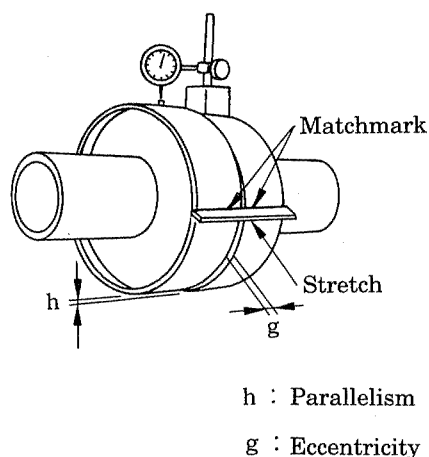

Fig. 1
- 3) Firmly secure a dial gauge to the outer surface of one coupling. (Fig. 1)